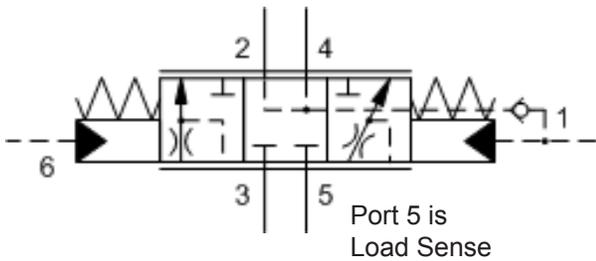

Figure 23 - FT\*K-XC
- **Figure 23** shows the circuit symbol for an FT\*K valve with L.S.